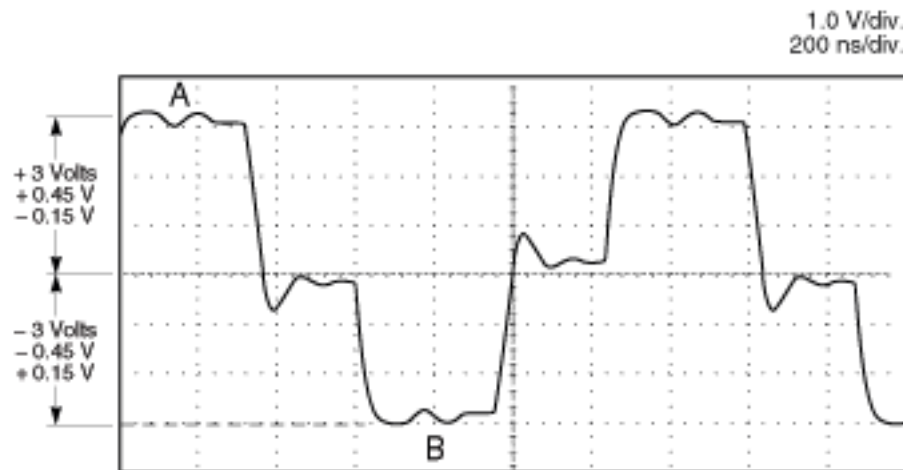
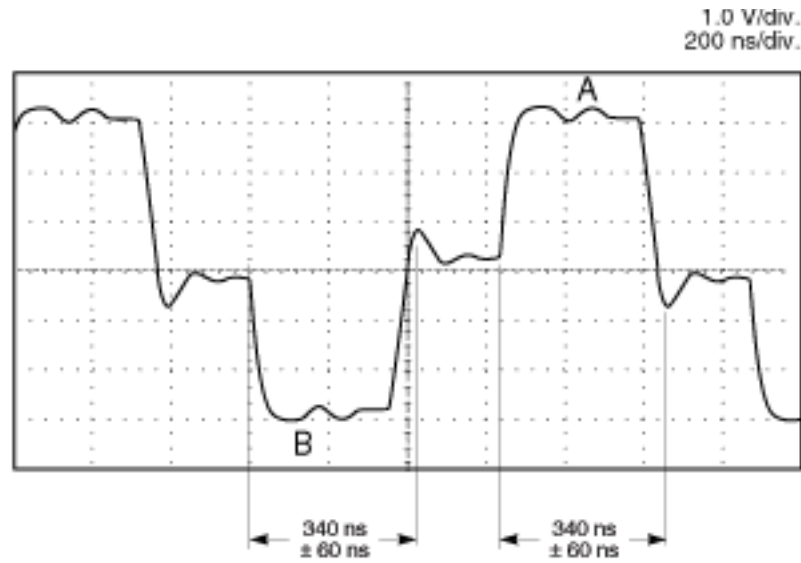

Figure E2-10. 1544 kbps Amplitude Test
Figure E2-11. 1544 kbps Pulse Width Test
For each output tested, connect that output to an oscilloscope set to high impedance (1 M Ω). Use a 75 Ω feed-thru as the test load impedance. Refer to Figure E2-10 and Figure E2-11 for the amplitude and pulse width expected.
Verify that the 1544 kbps signal has a positive amplitude (A) of 2.85 V to 3.45 V as shown in Figure E2-10.
Verify that the 1544 kbps has a negative amplitude (B) of -2.85 V to -3.45 V as shown in Figure E2-10.
Verify that the 1544 kbps signal has a positive pulse width (A) of 280 ns to 400 ns as shown in Figure E2-11.
Verify that the 1544 kbps signal has a negative pulse width (B) of 280 ns to 400 ns as shown in Figure E2-11.